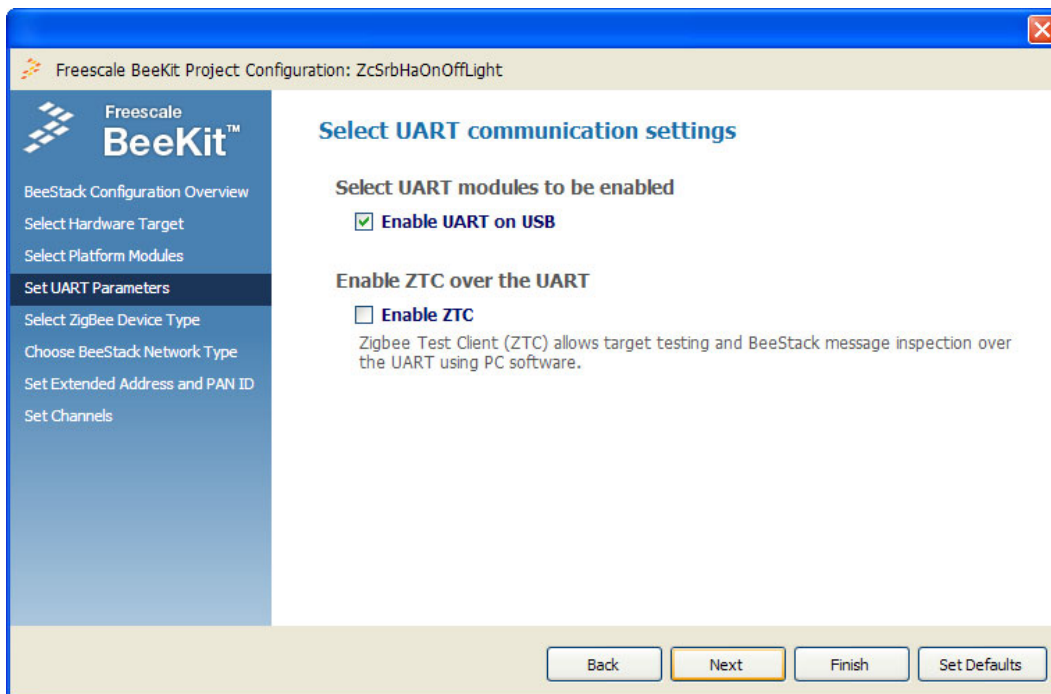

Figure 3-6. UART Parameters Page
4. Leave the default platform modules settings unchanged. LEDs and Keyboard modules on the SRB board will be enabled. Click Next to go to the UART Parameters page shown in Figure 3-6.